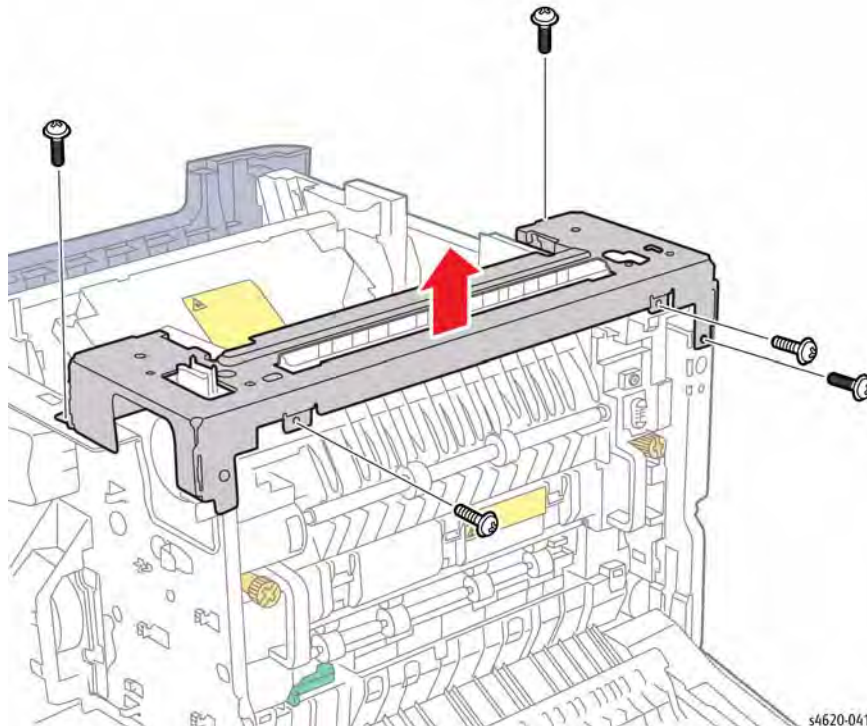

Figure 1 Remove the rear support bracket
8. Lift the bracket and rest on the printer chassis, Figure 1.